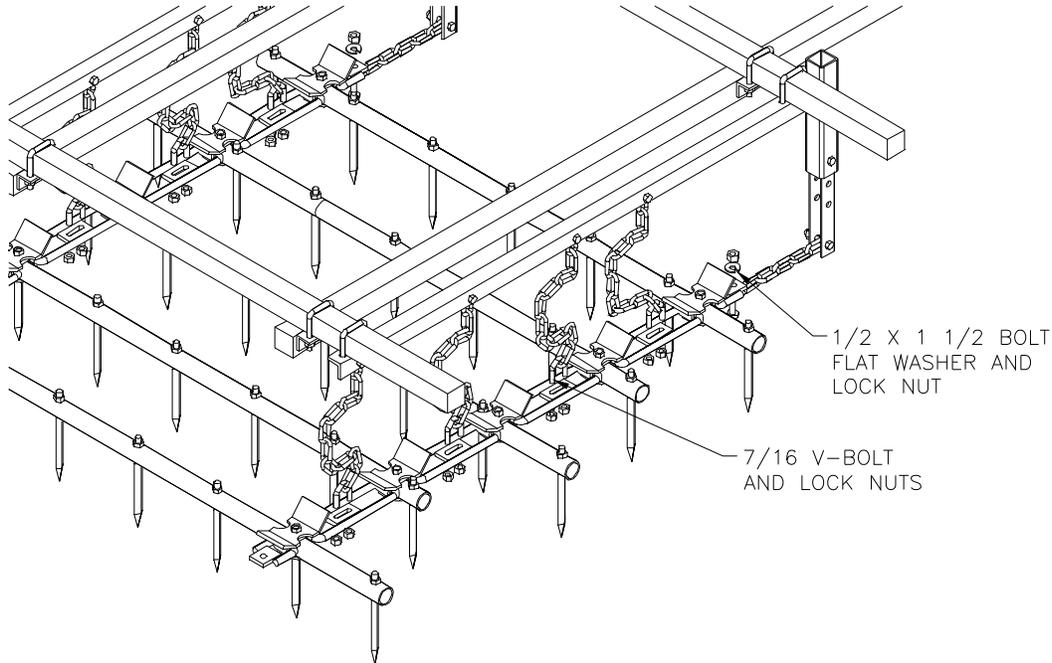

Figure 4
2. Bolt the harrow sections to the pull and lift chains using the fasteners identified in Figure 4.